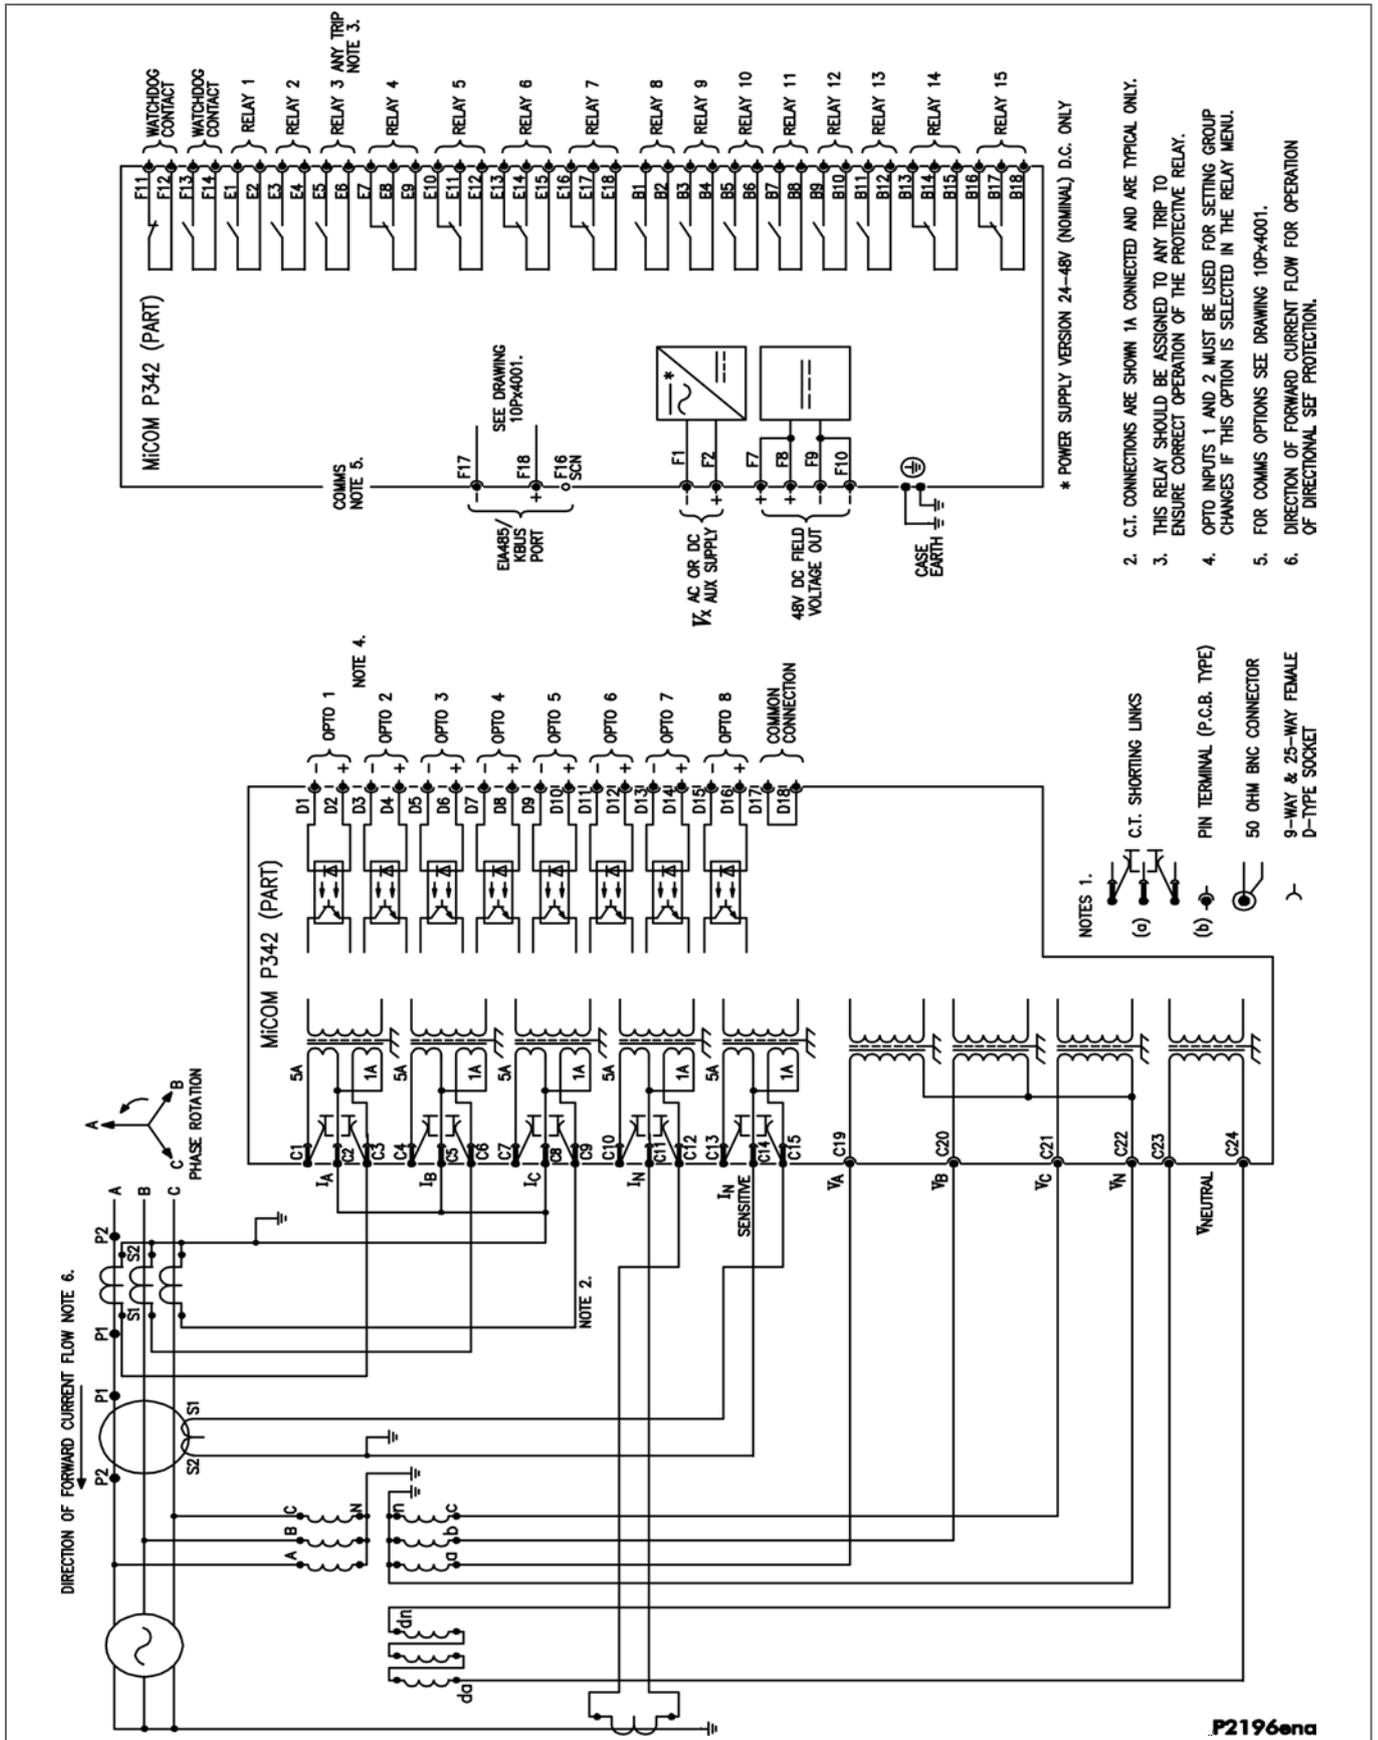

Figure 44 - P342 (40TE) for small generator (8 I/P & 15 O/P)
- Figure 44 - P342 (40TE) for small generator (8 I/P & 15 O/P)